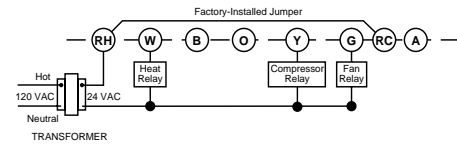
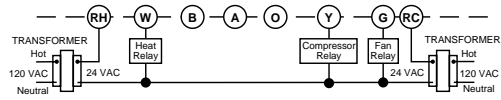

Figure 2. Typical wiring for single transformer heating/cooling system
Figure 3. Typical wiring for two-transformer heating/cooling system
- If your system has more than two wires:** Use the cross reference chart to determine correct wire connections. If you have a four-wire heat/cool system leave the factory installed jumper between **RC** and **RH** attached (see Fig. 2). If your system has five wires remove the factory installed jumper between **RC** and **RH** (see Fig. 3).